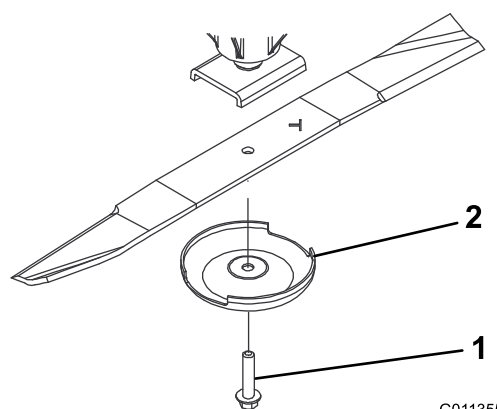

Figure 83
2. Grasp the end of the blade using a rag or thickly padded glove. Remove the blade bolt, anti-scalp cup, and blade from the spindle shaft (Figure 83).
3. Install the blade, sail facing toward the cutting deck, with the anti-scalp cup and blade bolt (Figure 83). Tighten blade bolt to 115–149 N-m (85–110 ft-lb).